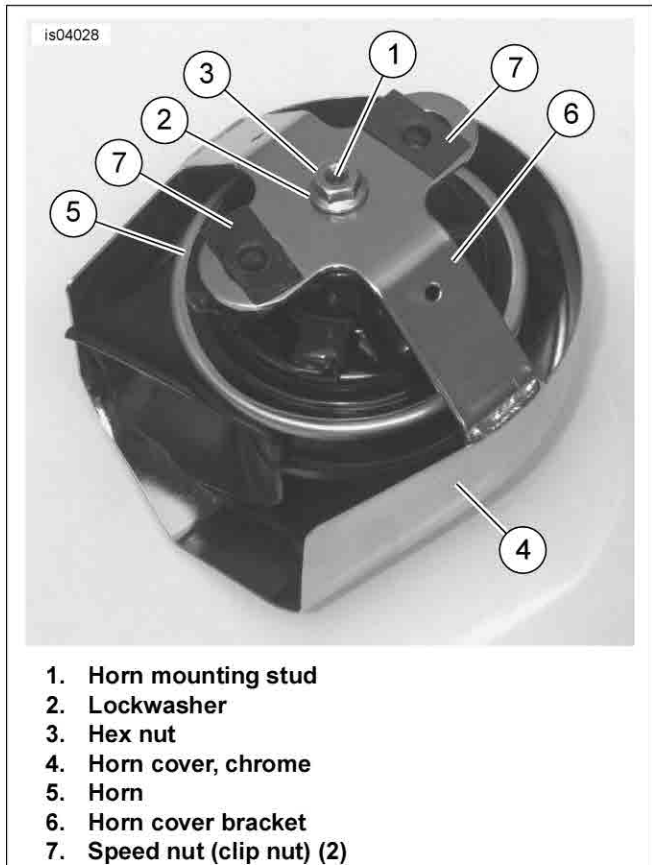

Figure 1. Horn Cover and Hardware, All Models
- (2) 1/4-20 x 3/8 in. long flanged hex head screws, Item 7
5. See Figure 1. Use a 10 mm wrench to remove the flanged hex nut (3) from the mounting stud (1) of the **new** horn (5) from the kit. Assemble the chrome horn cover (4) onto the horn using the middle hole in the horn cover bracket (6), as shown.